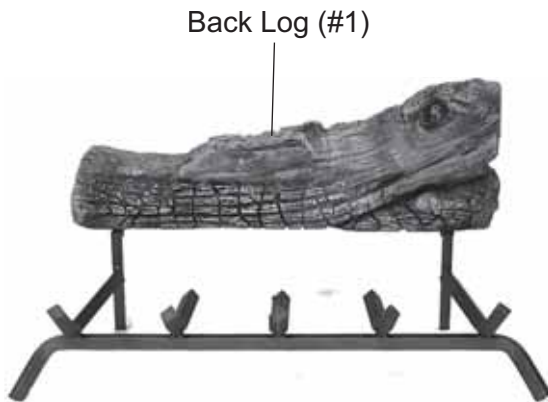

Figure 77 - Placing Rear Log (#1) on Back of Grate
2. Place Back Log #1 on back of grate. *See Figure 77.*